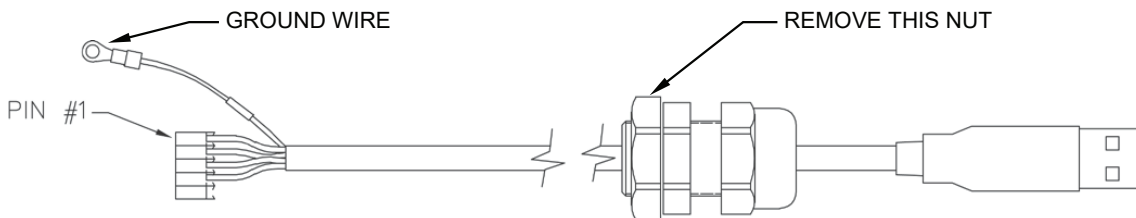

Figure No. 11
8. To attach the ground wire (see Figure No. 11); remove a 6-32 nut and washer from the corner of the main board.